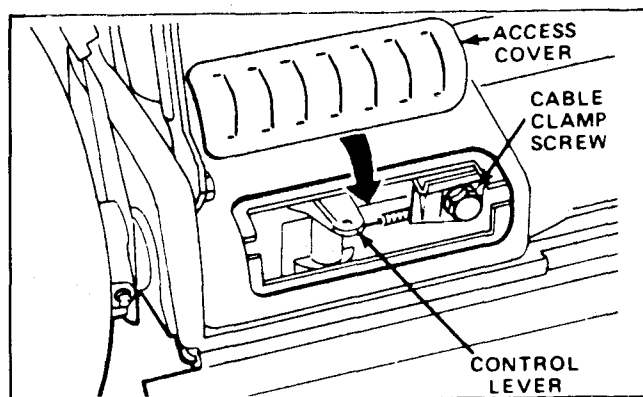

Figure 45
2. Remove access cover from the rear of the mower housing (push) from underneath. See Figure 45.